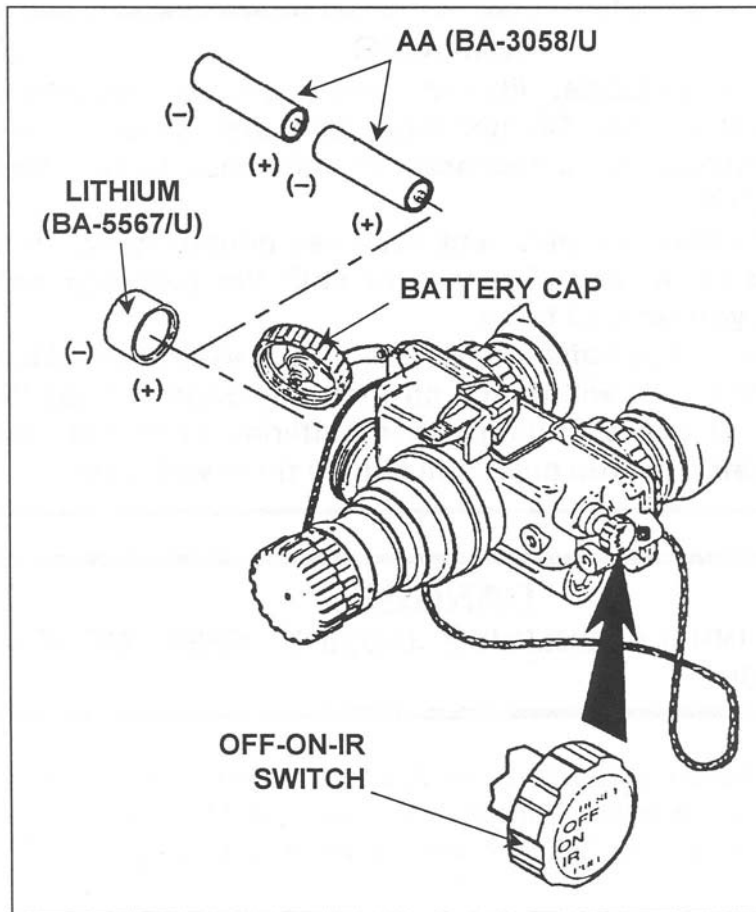

Figure 3. Battery installation.
- (1) Ensure that the goggles assembly rotary switch is in the OFF position. Inspect goggles assembly and components for any damage to optical surfaces, body, eyecups, OFF-ON-PULL/IR switch, and battery cap.
- (2) Ensure all optical surfaces are clean. Clean with clean water and lens tissue, if needed.
- c. Install batteries (Figure 3).